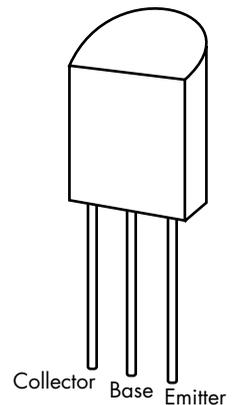

Figure 6-10: Pinout of the ZTX649 transistor
8. Insert transistor Q1 (ZTX649) into the breadboard in an area with three open rows (see Figure 6-10 for the pinout).